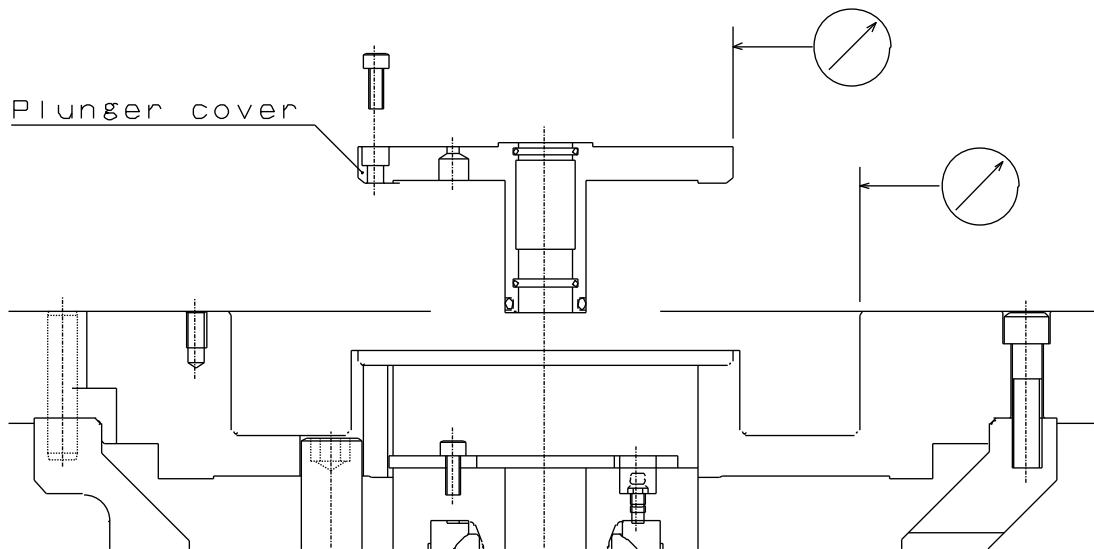

Fig.15
- Install plunger cover, and adjust each part so that the runout of diameter is less than 0.02 mm T.I.R. as shown in Fig.15.